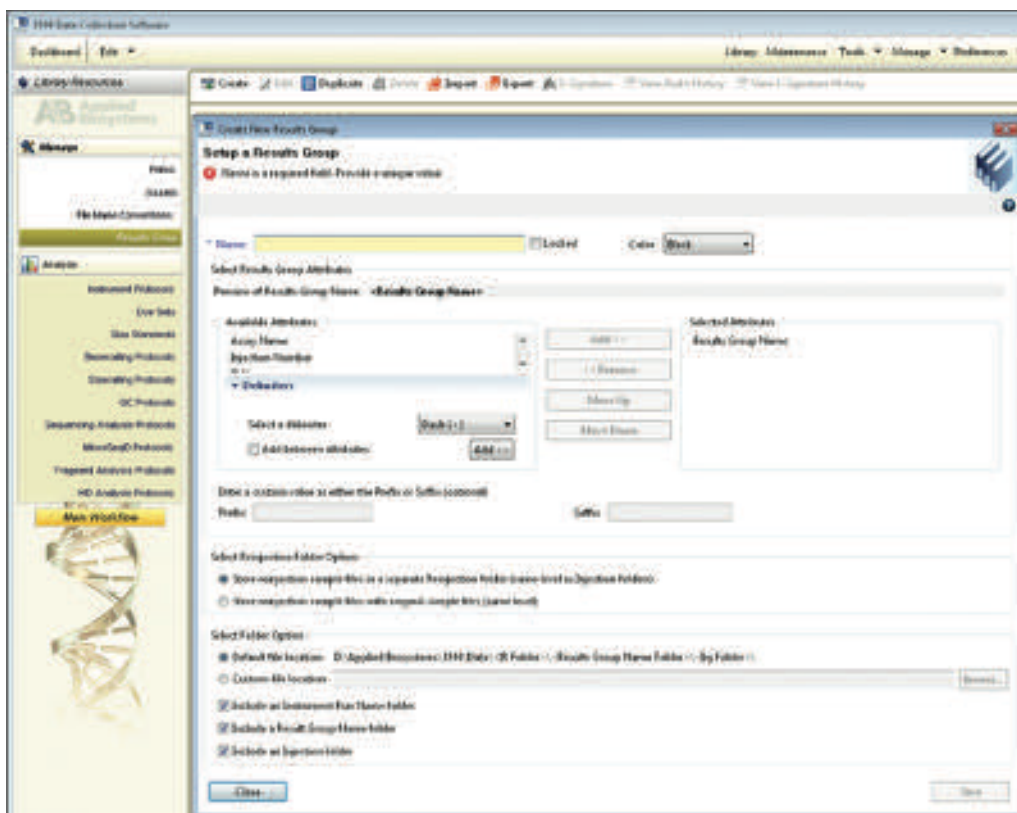

Figure 11. The Create New Results Group window.
2.f. To create a new Results Group (Figure 11), navigate to the Library. Select “Results Group”, and then select “Create”. Alternatively, a previously created Results Group may be used.